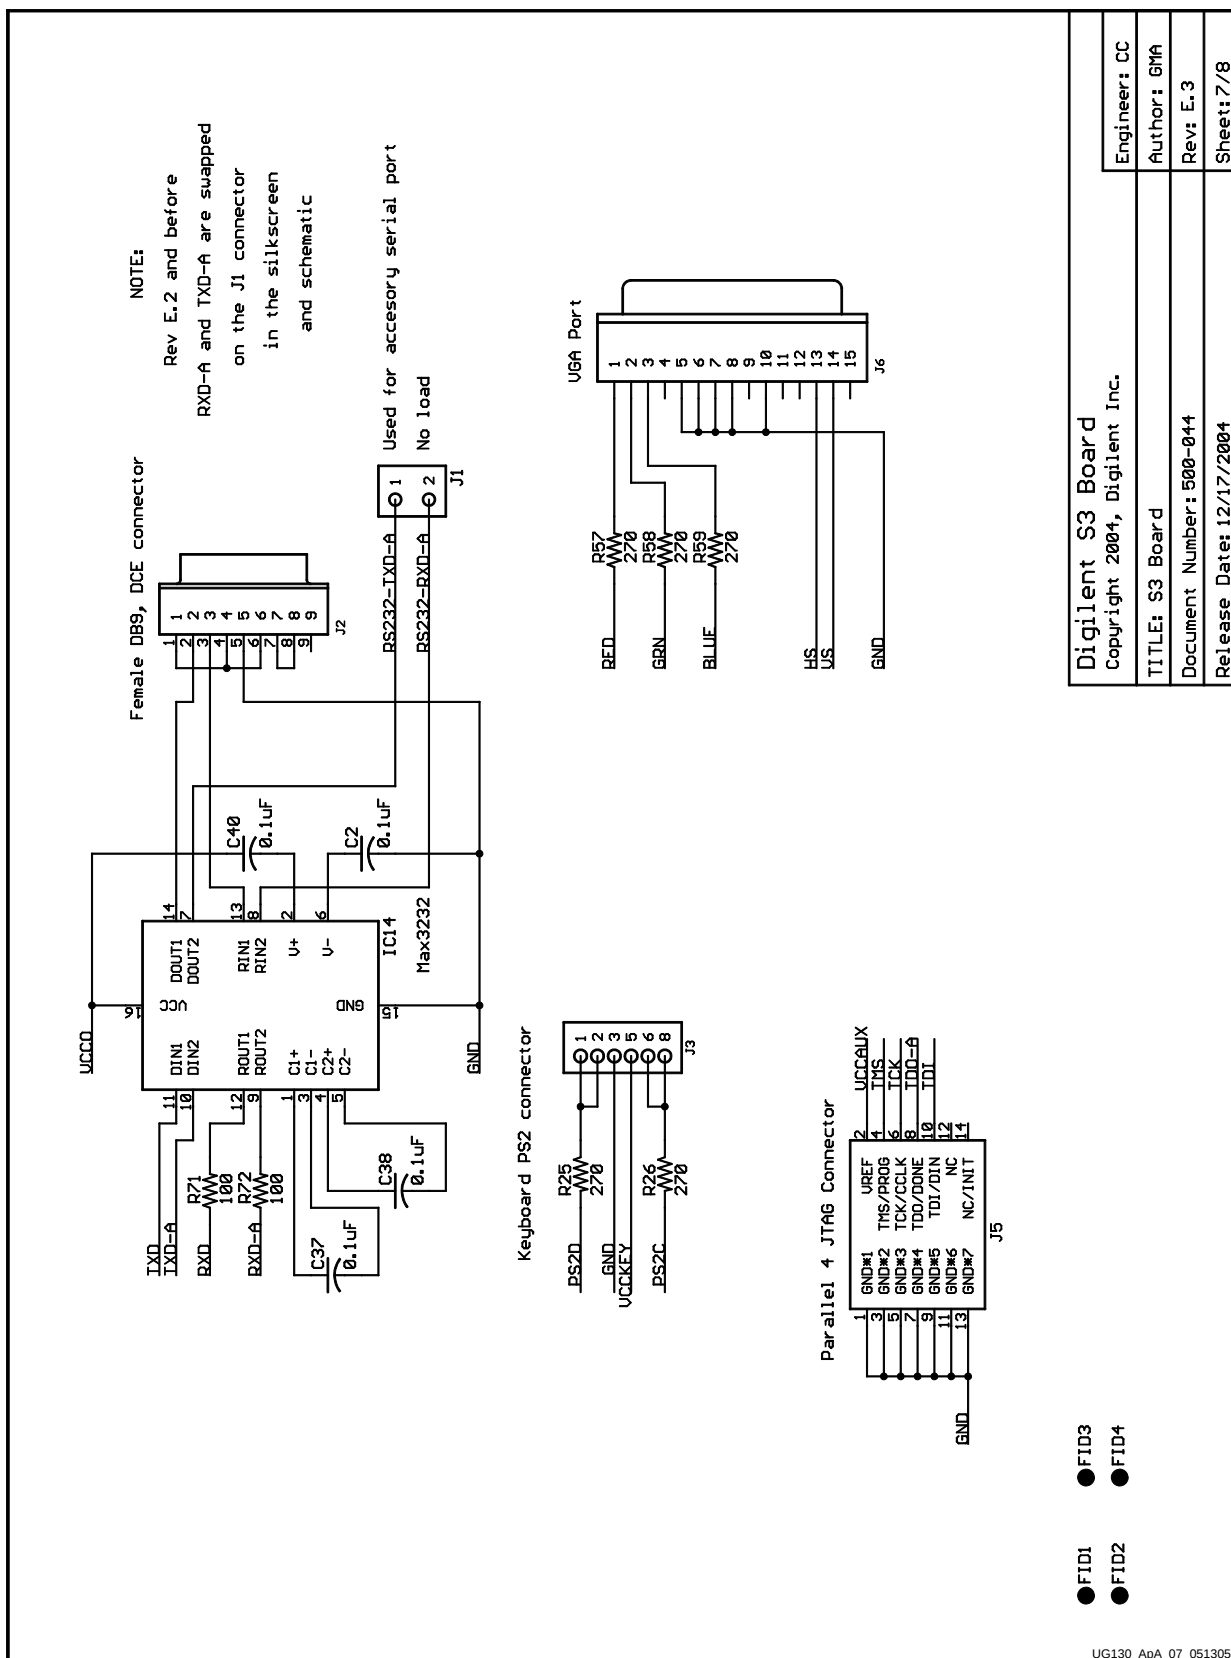

Figure A-7: RS-232 Serial Port, VGA Port, PS/2 Port, Parallel Cable IV JTAG Interface
- Figure A-7, “RS-232 Serial Port, VGA Port, PS/2 Port, Parallel Cable IV JTAG Interface”